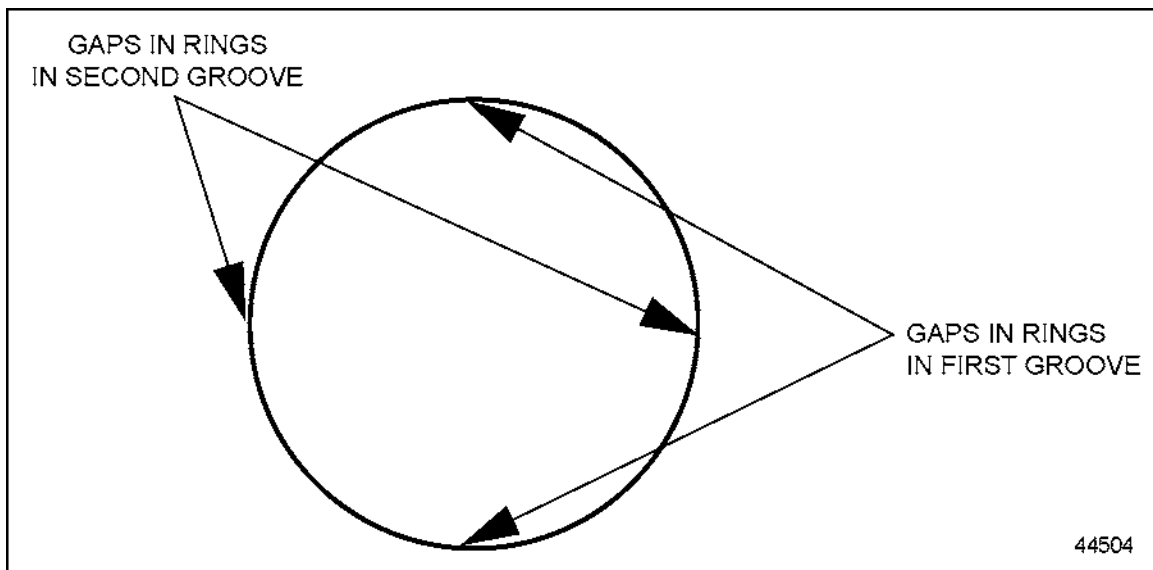

Figure 1 Sealing Ring Gap Location - Exhaust Manifold
2. Ensure that the gaps on the sealing rings in each groove are 180 degrees from each other, and turn the set of rings in the neighboring groove 90 degrees so that the net effect is a gap every 90 degrees. See Figure 1.